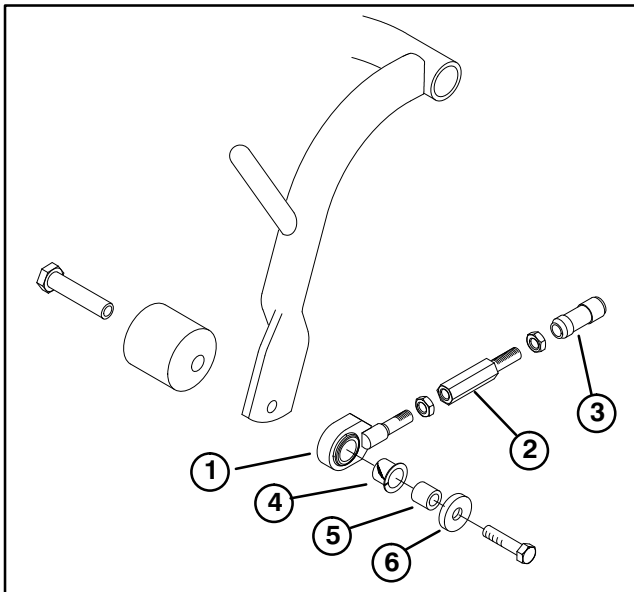

Figure 1
1. Loosely mount a anti-scalp roller and a pull link assembly to outer end of each front carrier frame with a roller shaft, spacer, washer and capscrew (Fig. 1). Make sure nylon bushing is in pull link.